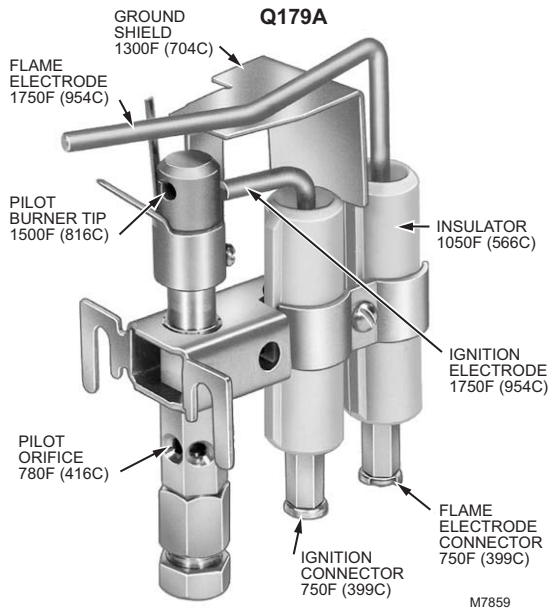

Fig. 3. Component maximum temperature ratings. (Q179A1126 model shown)
See Fig. 3.
- Where ambient temperatures exceed those specified in Fig. 3.